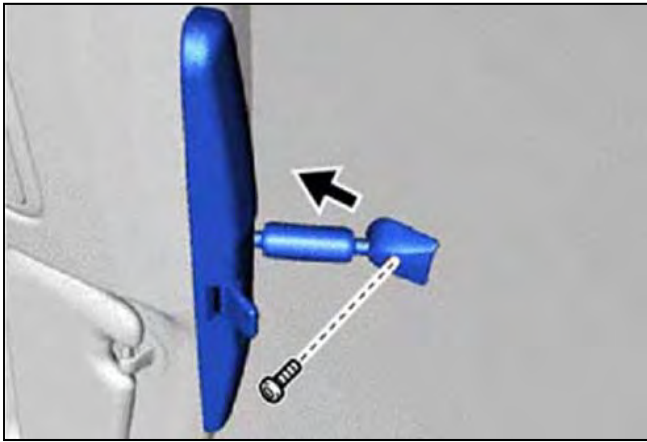

Figure 7a
7. Using a T20 "TORX" socket wrench, remove the screw and inner rear view mirror assembly as shown in the illustration. See figure 7a.